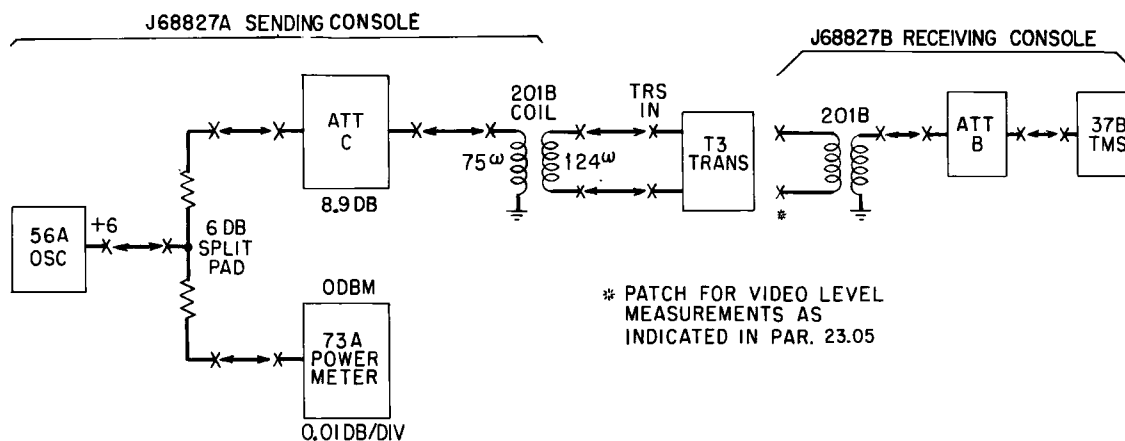

Fig. 15 — Test Arrangement for Checking Signal Amplitudes in Video Section
- (1) Set up test arrangement of Fig. 15.
- (2) Set 56A oscillator for 1 mc and adjust for 0 dbm output on the 73A power meter.
- (3) Measure video amplitudes by removing patch plugs, as necessary, and patching the balance side of the 201B coil to various jacks as indicated below. Set ATT B at zero loss except when measuring the output of the video amplifier. For this measurement, increase ATT B to obtain a negative value on the 37B set and correct its reading by adding the setting value of ATT B to the 37B set reading.